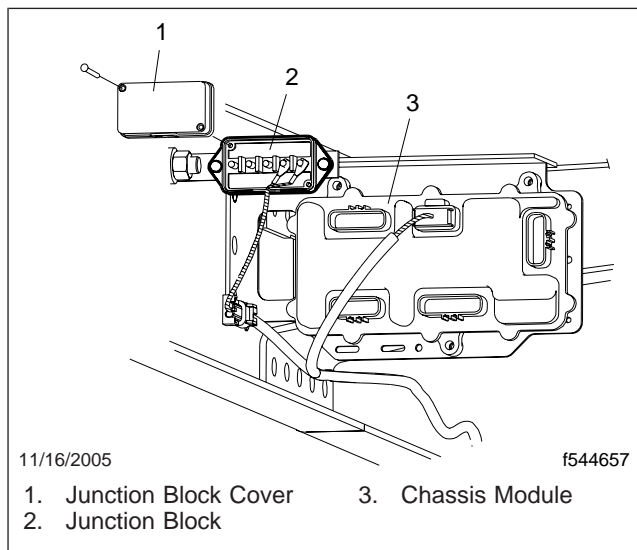

Fig. 1, Junction Block
3. Locate the junction block attached to the frame rail near the Chassis Module (CHM.) See Fig. 1.